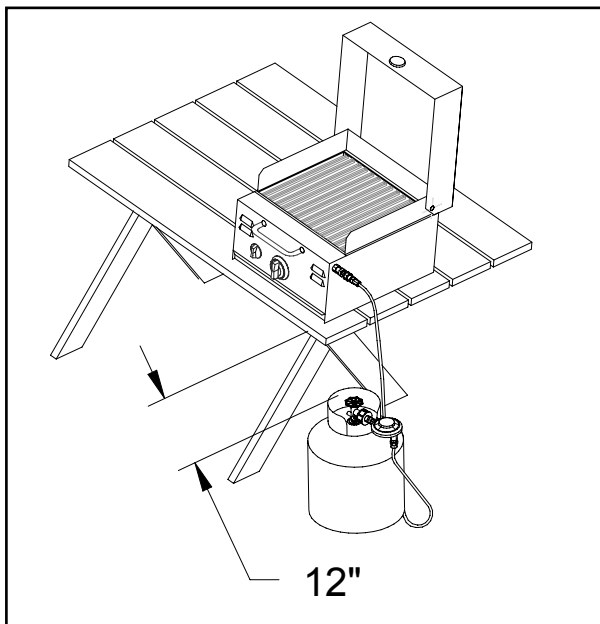

Figure 2. LP Gas Cylinder Location
WARNING: A MINIMUM OF 12 INCHES OF CLEARANCE MUST BE MAINTAINED ON ALL SIDES OF THE UNIT TO THE LP GAS SUPPLY CYLINDER WHEN USING THE REGULATOR WITH HOSE ASSEMBLY. THE LP GAS SUPPLY CYLINDER MUST BE LOCATED IN A SAFE POSITION TO PREVENT TRIPPING (SEE FIGURE 2).
4. Place the Gas Cylinder in a safe location maintaining 12 inches of clearance on all sides and locating the cylinder and hose in a position to prevent tripping (see Figure 2 on pg. 7). Remove the protective caps from the Cylinder Valve outlet and Nipple as necessary.